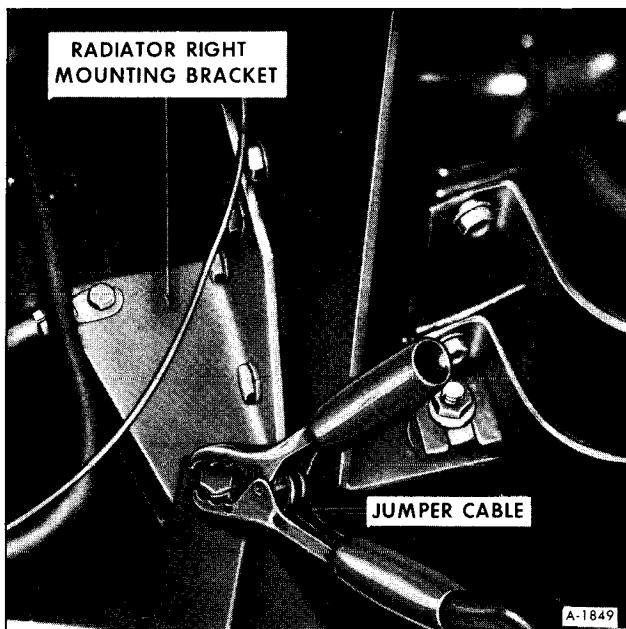

Figure 10—Connecting Jumper Cable to Right Radiator Mounting Bracket
4. Attach one end of the remaining negative cable to the negative terminal (black color, "-" or "N") of the booster battery, and the other end to the right radiator mounting bracket (do not connect directly to negative post of dead battery). Make sure that clamps from one cable do not inadvertently touch the clamps on the other cable. Do not lean over the battery when making this connection. (figure 10)